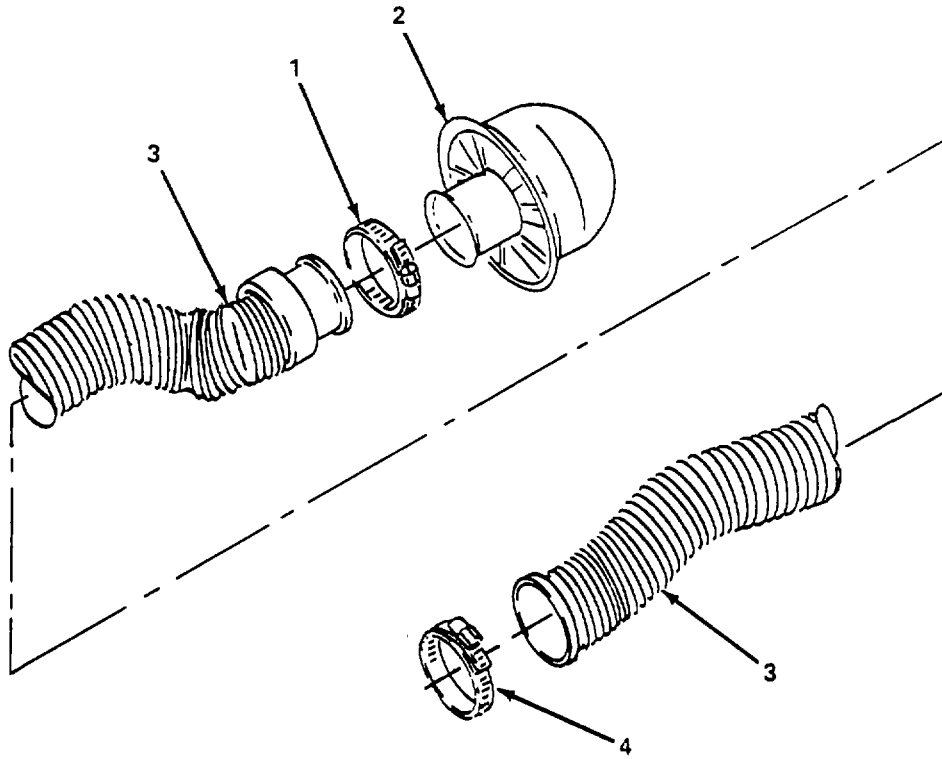

Figure 4-9. Pre-Filter and Hose Assembly, Repair.
**4-18. Pre-Filter and Hose Assembly (Cont)****b. Repair.** (figure 4-9)
- (1) Remove pre-filter and hose assembly (para. a.).
- (2) Loosen clamp (1) and remove pre-filter (2) and clamp (1).
- (3) Inspect hose (3) and replace if cracked.
- (4) Inspect clamps (1) and (4) and replace if bent or otherwise damaged.
- (5) Inspect pre-filter (2) and replace if cracked or otherwise damaged.
- (6) Install clamp (1) and pre-filter (2) and tighten clamp (1).
- (7) Install pre-filter and hose assembly (para. a.)